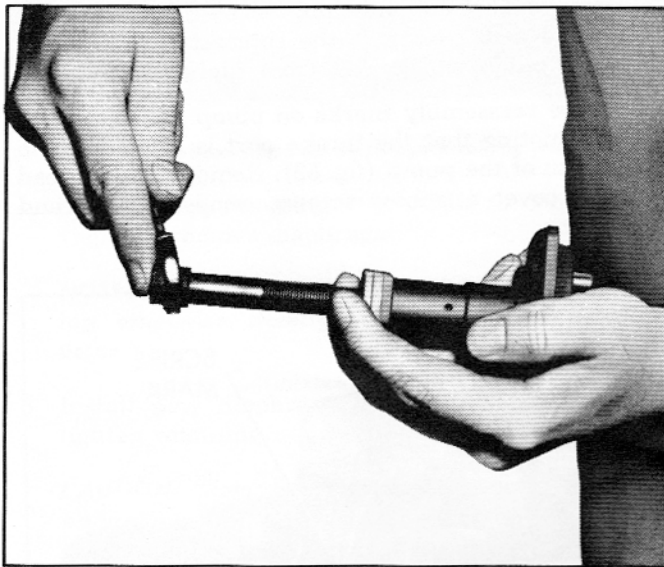

Fig. 54—Removing Drive Shaft Seal
5. Using a suitable puller or a $\frac{1}{16}$ " x 18 tap, remove drive shaft seal from pump housing (fig. 54).